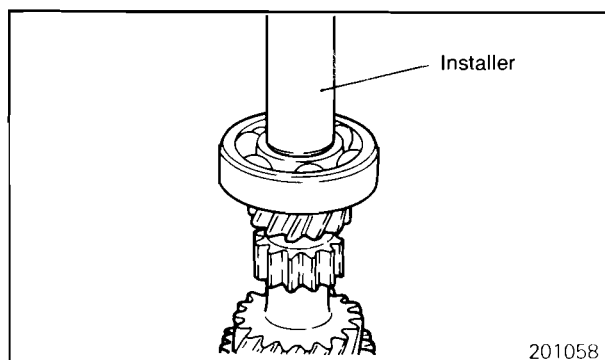

Fig. 40—Input shaft bearing installation
(10) Install the front input shaft bearing over the input shaft using a suitable installer, refer Fig. 40.